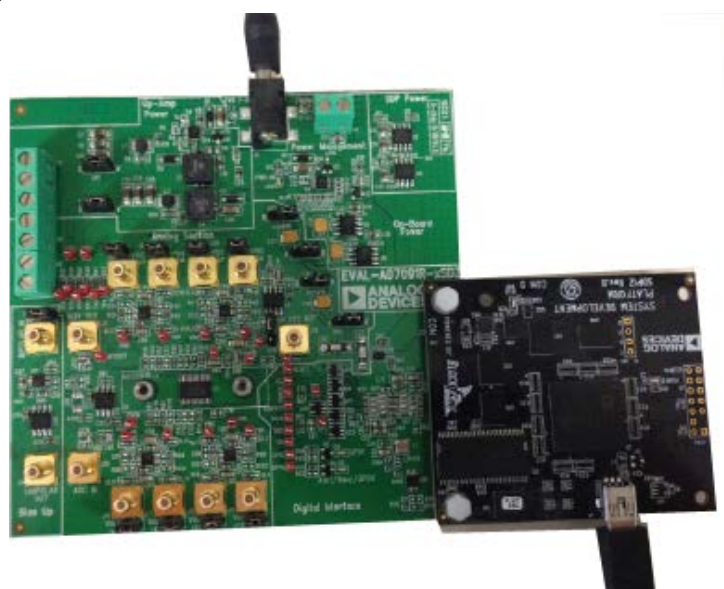

Figure 2. Evaluation Board (Left) Connected to the SDP Board (Right)
3. Connect the EVAL-SDP-CB1Z board to the evaluation board as shown in Figure 2. Screw the two boards together using the enclosed nylon screw/nut set to ensure that the boards connect firmly together.